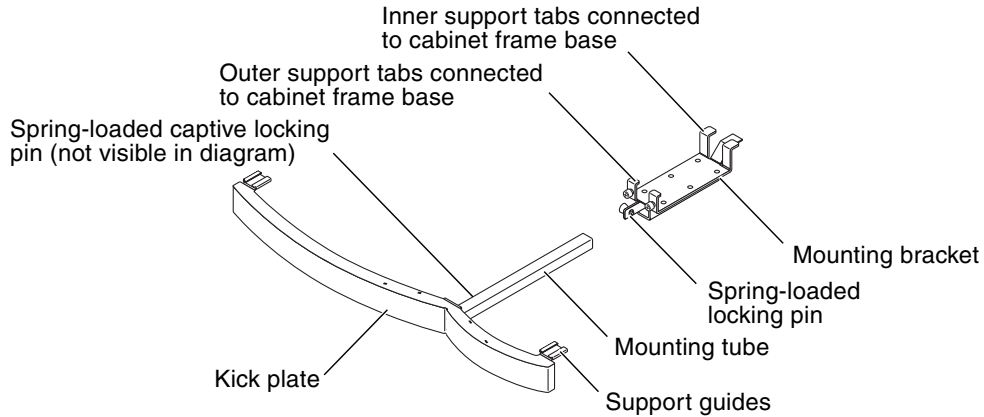

FIGURE 17-1 Kick Plate Assembly
1. Use a pull-turn motion to release the spring-loaded captive locking pin on the left side of the mounting tube and pull the kick plate assembly outward from the mounting bracket (FIGURE 17-1).